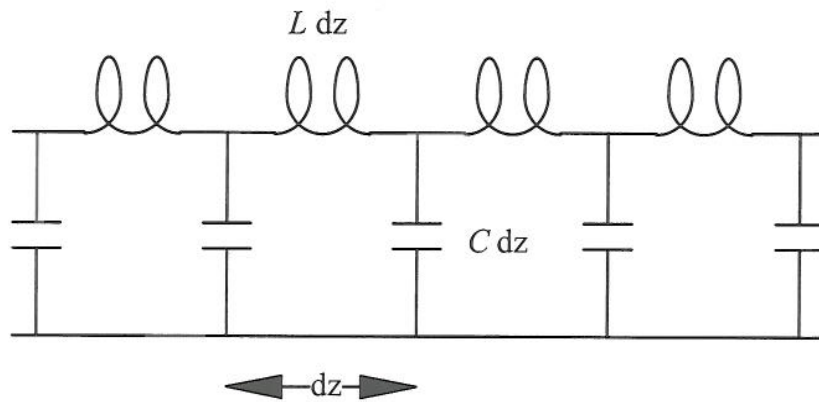

Figure 5
5. a) Figure 5 shows an equivalent circuit for a section of a transmission line. Derive the transmission line equation, and show that the phase velocity of waves on the line is $1/\sqrt{LC}$. [8]